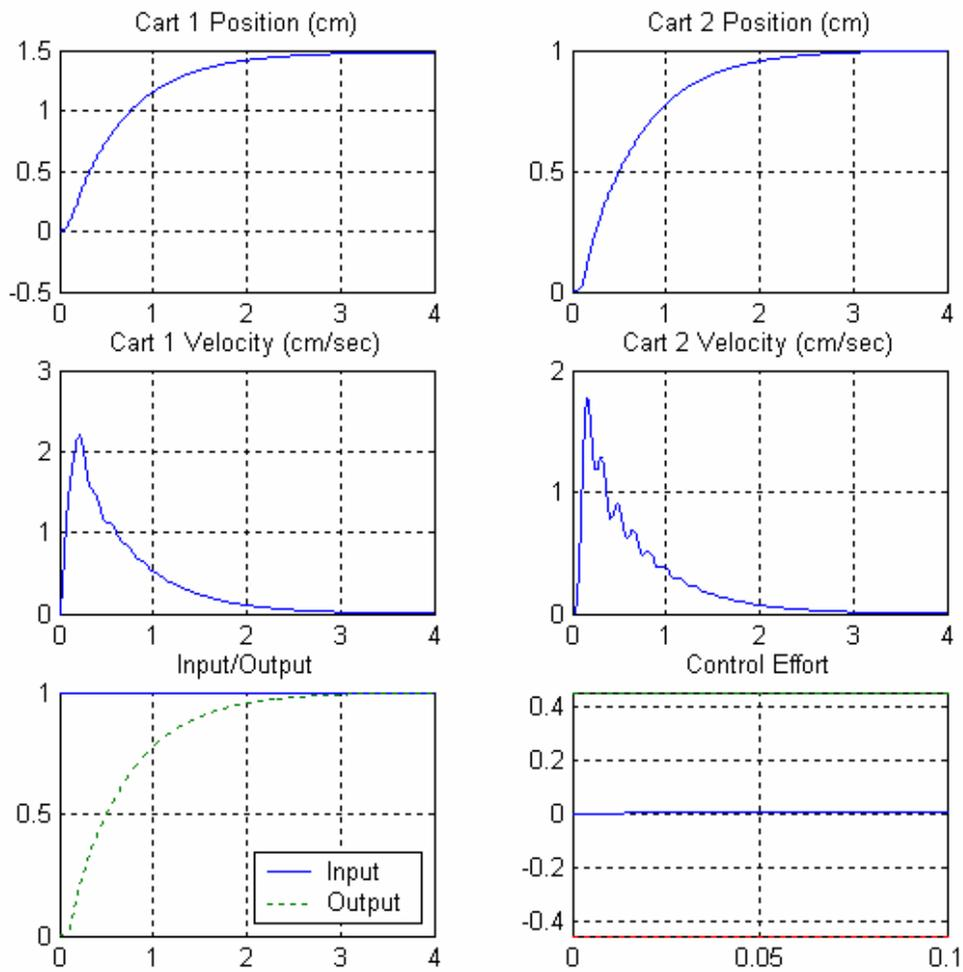

Figure 3. Step response of a two degree of freedom system using the lqr command. The position of the second cart is being controlled.
c) Using the command $k = \text{lqr}([0.1 \ 0 \ 0.1 \ 0 \ 1], 10)$ and controlling the position of the second cart you should get the results displayed in Figure 3. Turn in your plot.